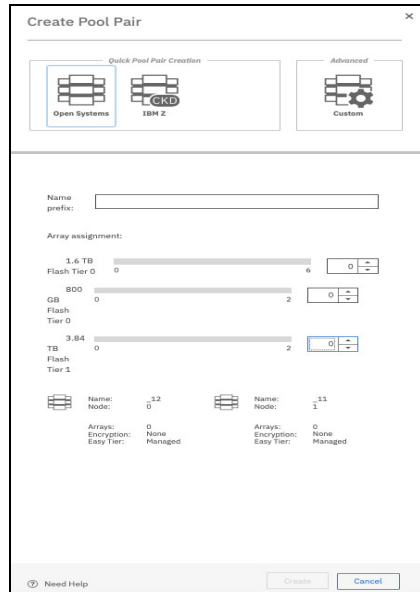

Figure 9-42 Creating an empty pool pair with no assigned arrays
1. Create a pool pair, as shown in Figure 9-42. However, do not assign any arrays to the new pool pair.